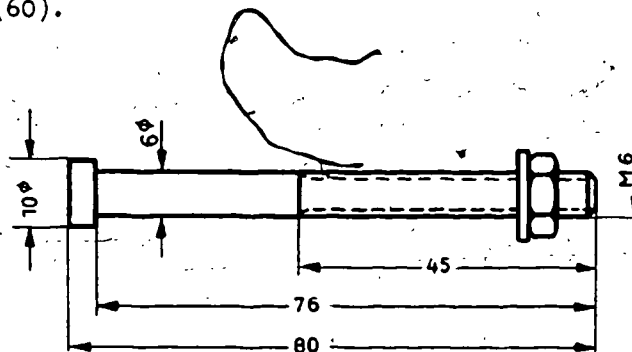

Fig. 2 Auxiliary bolt (not supplied)
1 auxiliary screw	see page 2, Fig. 2
- a) Unscrew bearing bolt (59) together with guide nut (67) from carrier bolt (61).
- b) Remove snap ring (63) by using an auxiliary bolt (to be made according to the sketch, Fig. 2). Insert it instead of the carrier bolt (61), and tension drag spring (65) by screwing-on a nut with washer.
- c) Remove spring plate (62), drag spring (65) and adjusting washer (60).
1. Introduce adjusting washer (60), drag spring (65), and spring plate (62) into the adjusting bush (64).
2. Mount auxiliary screw (Fig. 2), and tension drag spring. Insert snap ring (63), remove auxiliary screw, and compress drag spring repeatedly.